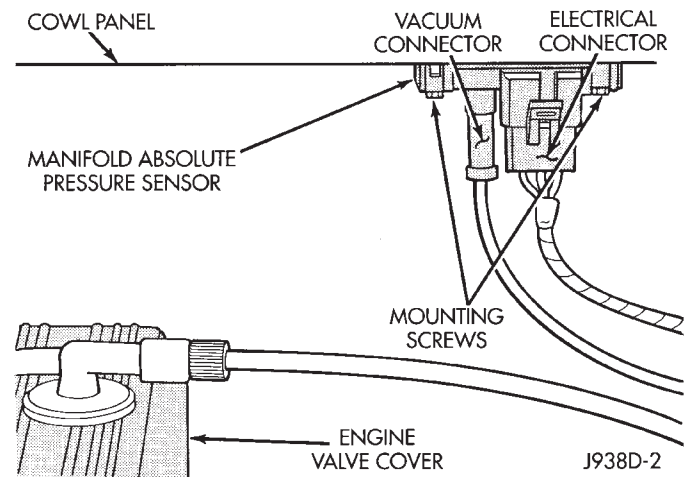

Fig. 10 Manifold Absolute Pressure (MAP) Sensor
(17) Verify that MAP sensor electrical connector is firmly connected to MAP sensor (Fig. 10). Verify that vacuum hose is firmly connected to MAP sensor and to the intake manifold.
(18) Verify that fuel injector wire harness connectors are firmly connected to the fuel injectors in the